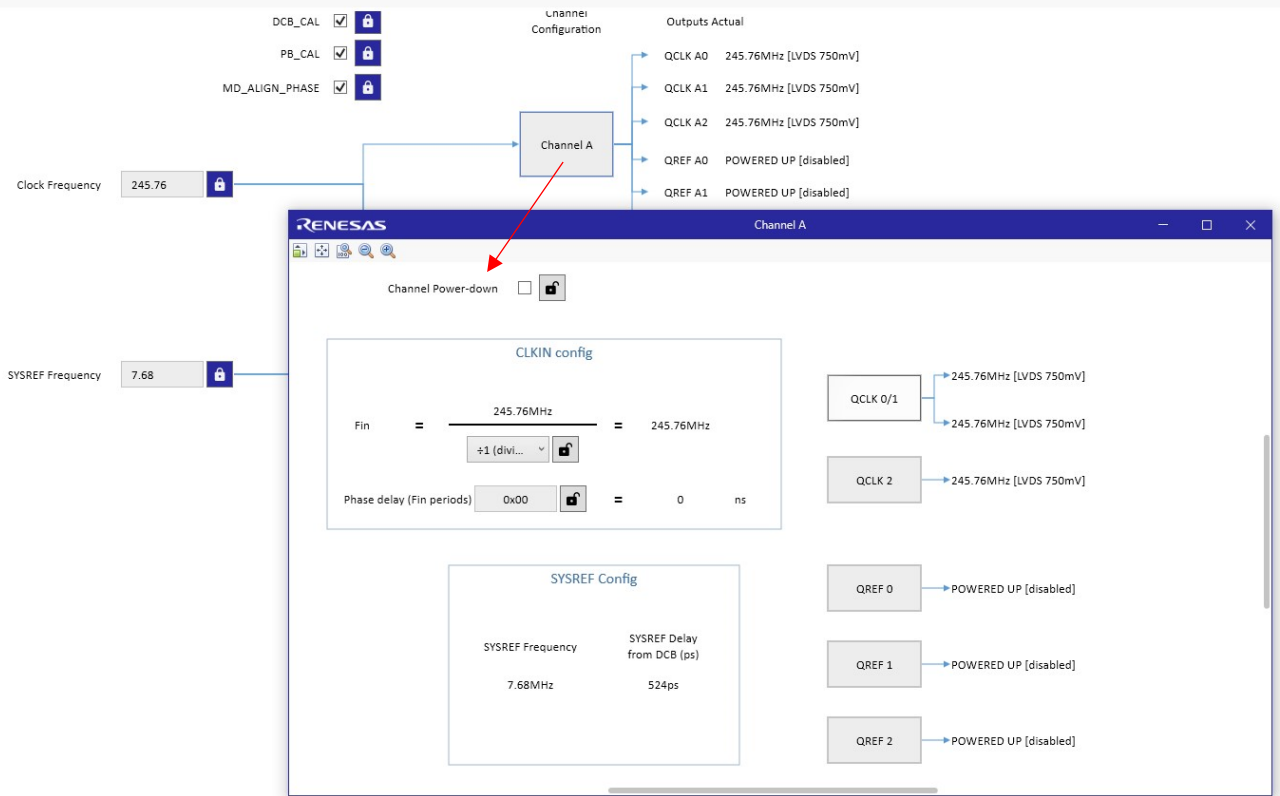

Figure 19. Output Channel Frequency and Phase Delay Setting
- Set the clock output QCLKx output frequency and phase delay (see Figure 19 for an example). INIT\_CLK is required to activate QCLKx divider and Phase Delay.